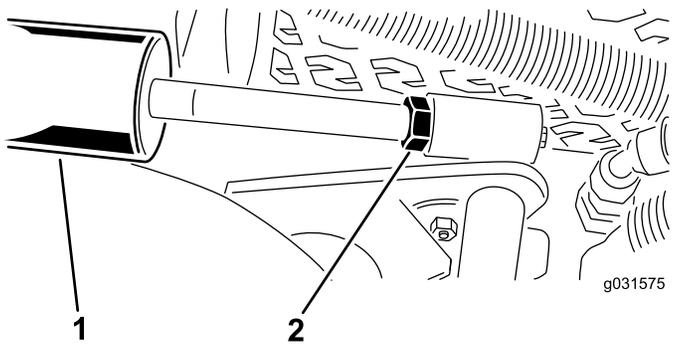

Figure 11
- A. Lower the cutting units and back off the jam nut on the cylinder (Figure 11).